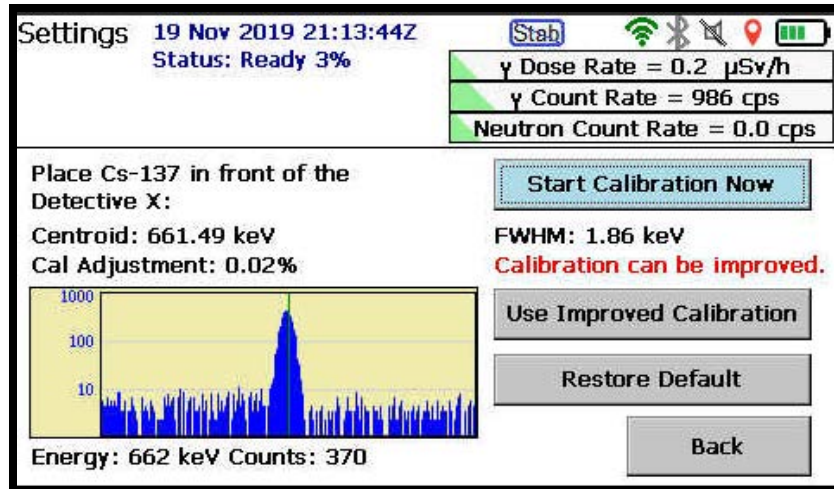

Figure 94. Calibrate Screen
2. Tap **Settings** to open the Settings screen, then tap **Calibrate** to display the screen shown in Figure 94.